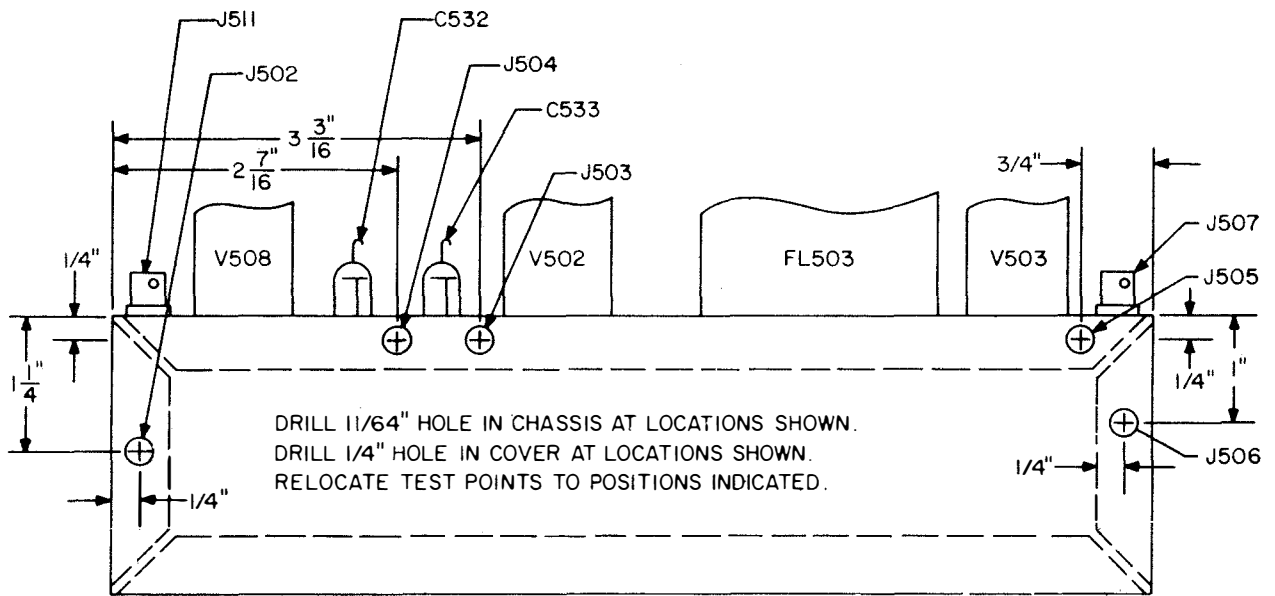

Figure 1. Top View of Injection IF Amplifier as Installed in CV-920/WRR-2 converter.
6. Drill five (5) holes in the chassis with the 11/64 inch drill bit at locations shown in Figure 1.
8. Drill five (5) holes in the chassis cover which was removed in step 3 with the 1/4 inch drill bit at locations shown in Figure 1.
9. Letter test jacks on cover for identification as in Figure 1. Rubber stamping may be used, but should be covered with a coat of clear laquer.